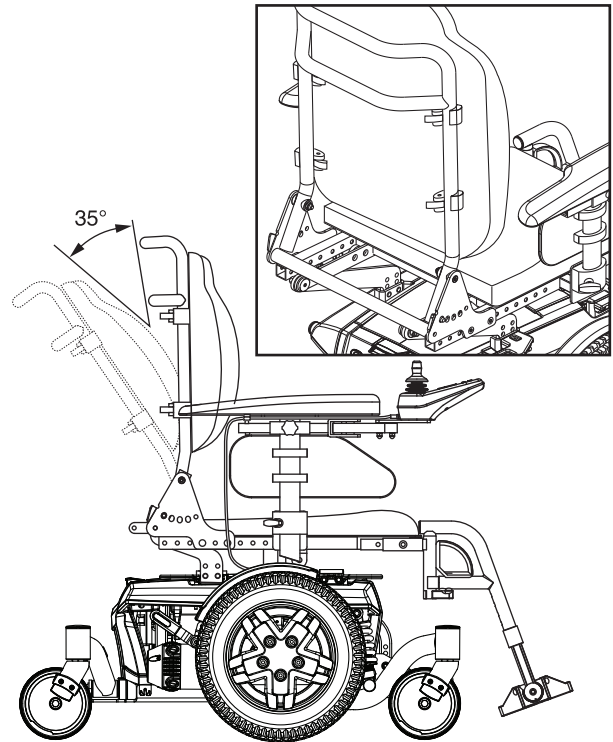

Figure 10. Manual Recline Seatback Adjustment
1. Pull the adjustment strap on the bottom portion of the seatback. **See figure 10.**